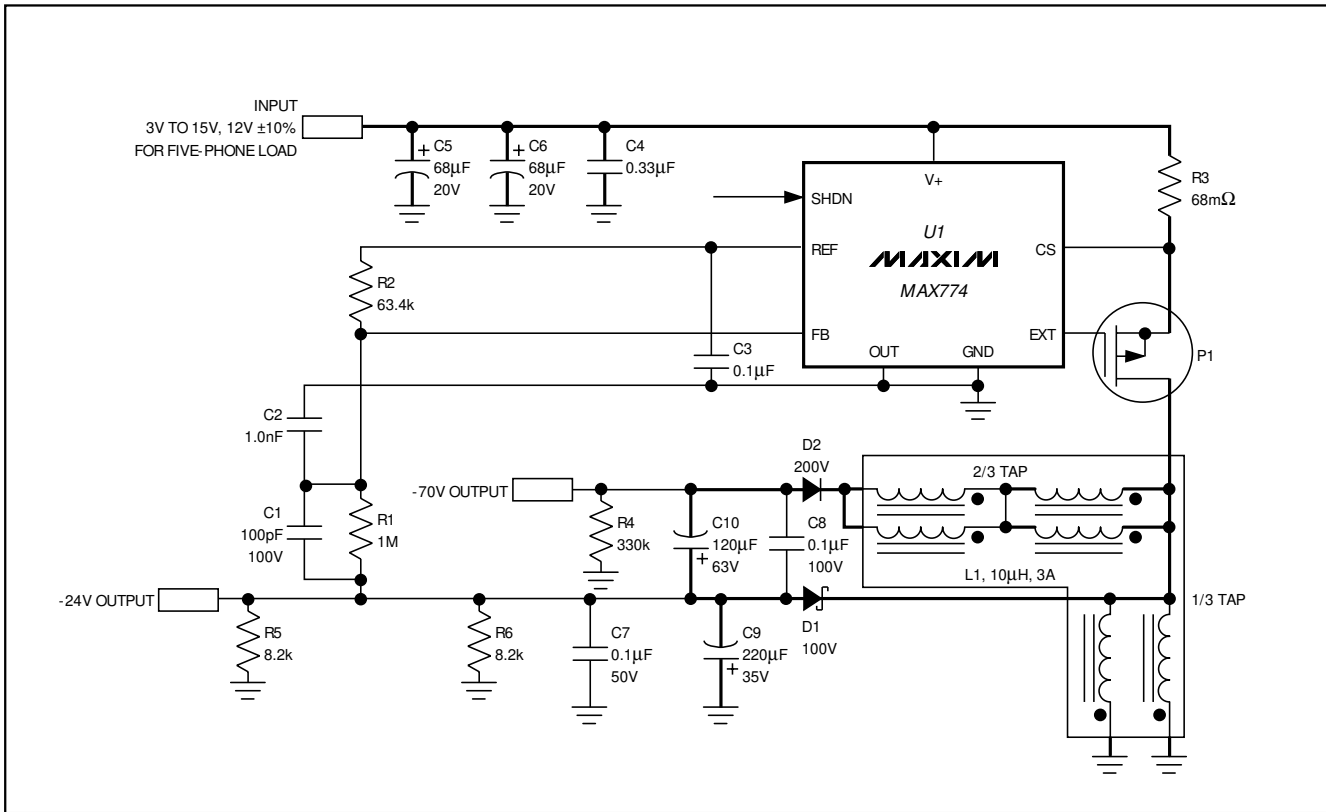

Figure 1. MAX774 IRG EV Kit Schematic
The EV kit schematic (Figure 1) and the MAX774 block diagram in the MAX774/MAX775/MAX776 data sheet show how the circuit works. When the -24V output drops out of regulation, the error comparator in the MAX774 initiates a switching cycle. The P-channel MOSFET (P1) turns on, allowing current to ramp up through the transformer's lower windings (between the 1/3 tap and ground) and store energy in a magnetic field. When the current through the sense resistor crosses the trip threshold ($210\text{mV} / 68\text{m}\Omega = 3.09\text{A}$), the MOSFET turns off and interrupts the current flow, causing the magnetic field in the transformer to collapse. The transformer forces current through the output diodes, transferring the stored energy to the output filter capacitors. The output filter capacitors smooth the power and voltage delivered to the load. The MAX774 waits until it senses the output dropping below the regulation trip point before initiating another cycle. The -24V output is precisely regulated by connecting a voltage divider, R1 and R2, as shown in Figure 1. The MAX774 regulates the FB pin, keeping it at 0V. The -70V output is regulated using the turns ratios between the -24V and -70V output.
Use preloading at the outputs to keep the -70V output in regulation. For designs servicing a five-ringer equivalent load, use the following preloads. For the off-hook case, only a couple hundred microamperes are necessary to hold down the -70V output. This can be achieved using either a 330kΩ resistor (R4, Figure 1) or zener diode (Figure 2b). For the on-hook case, draw approximately 5.5mA from the -24V output to hold up the -70V output. This 5.5mA can be drawn continuously using two 8.2kΩ resistors (R5 and R6), or intermittently using a transistor to gate the preload while the phone is ringing (Figure 2c). The transistor can be controlled using a microcontroller input/output line, or it can be decoded from the control signals of the AM79R79.
- 3) Make high-power traces, highlighted in the EV kit schematic (Figure 1), as short and as wide as possible. Make the supply-current loop (formed by C5, C6, R3, P1, and L1) and output current loops (L1, D1, and C9 for the -24V output; L1, D2, C9, and C10 for the -70V output) as tight as possible to reduce radiated noise.